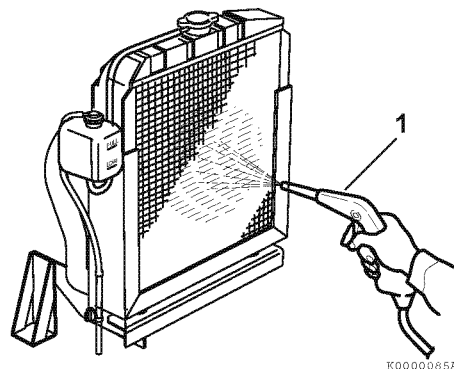

Figure 5-7
Note that a typical radiator is shown in **Figure 5-7** for illustrative purposes only.
- Blow off dirt and dust from fins and radiator with 28 psi (0.19 MPa; 2 kgf/cm²) or less of compressed air (1, **Figure 5-7**). Be careful not to damage the fins with the compressed air.